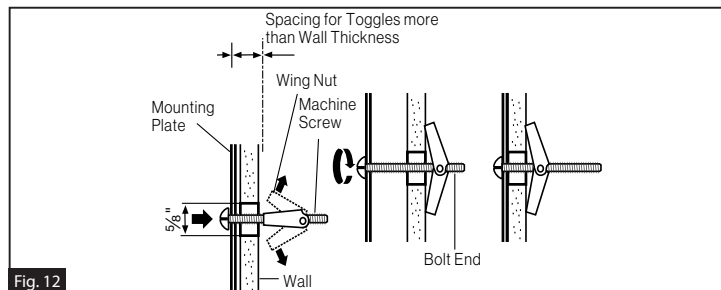

Fig. 12
3. Tighten all bolts. Pull the plate away from the wall to help tighten the bolts. (Fig. 12)